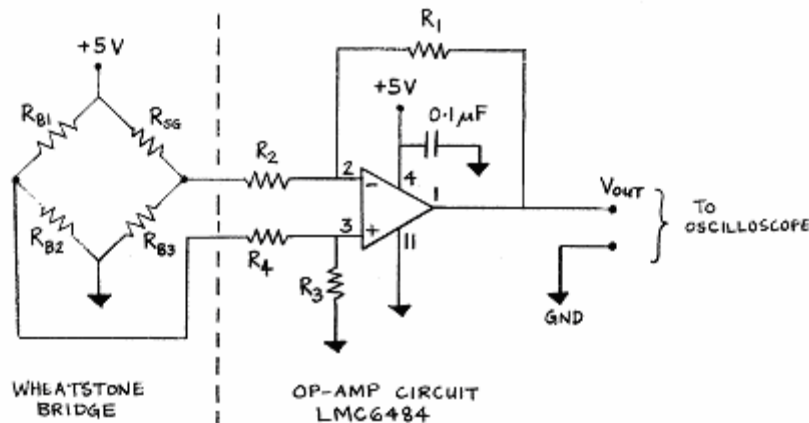
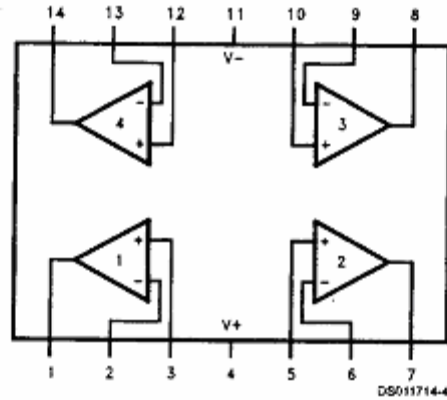
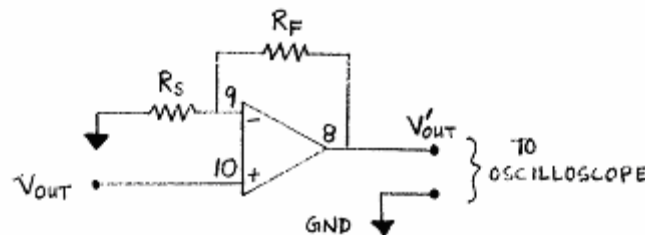

Figure 3. **Analog sensor circuit for using a strain gage as a deflection sensor**
Figure 4. LMC6484 op-amp connection diagram
Figure 8. **Noninverting operational amplifier circuit diagram**
1. Build the analog circuit shown in Figure 3 on an electronic breadboard. Remember to use red wire for positive power connections and black wire for ground connections. Since the strain gage has a resistance of (approximately)  $R_{SG} = 350\Omega$ , the resistors2 on the remaining three arms of the Wheatstone bridge should be matched such that  $R_{B1} = R_{B2} = R_{B3} = 350\Omega$ . For this lab, you will actually use  $R_{B1} = R_{B2} = R_{B3} = 348\Omega$  or  $R_{B1} = R_{B2} = R_{B3} = 357\Omega$ .
The voltage output from the Wheatstone bridge is amplified by the LMC6484 operational amplifier, shown on the right side of the dotted line in Figure 3. Although the LMC6484 chip contains four op-amps with identical capabilities (see Figure 4), you will use only op-amp number one at this time (LMC6484 pins 1, 2, and 3). Choose the op-amp resistors such that  $R_1 = R_3 = 1\text{ M}\Omega$  and  $R_2 = R_4 = 100\text{ k}\Omega$ . Then, the voltage gain  $A_V$  of your op-amp circuit will be:
1. Add the circuit shown in Figure 8 to the circuit you built in Experiment #1. Use op-amp number three (pin numbers 8, 9, and 10) on the LMC6484 chip (Figure 4). Choose the source resistor  $R_S$  and the feedback resistor  $R_F$  such that  $R_S = 10\text{ k}\Omega$  and  $R_F = 150\text{ k}\Omega$ . Then, the voltage gain  $A_V$  from the noninverting op-amp is given by